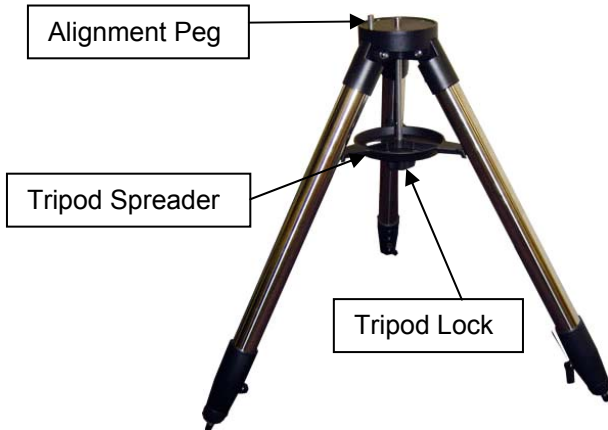

Figure 1
- A. Setup tripod:** Expand the tripod legs and lock the Tripod Spreader so that the tripod legs stay open (Figure 1). Adjust the tripod height by unlocking and re-locking the tripod legs to desired height. Position the tripod so that the Alignment Peg faces north. (*The Alignment Peg may be moved to the opposite position if used at latitude lower than 20° to avoid counterweights hitting the tripod leg.*)